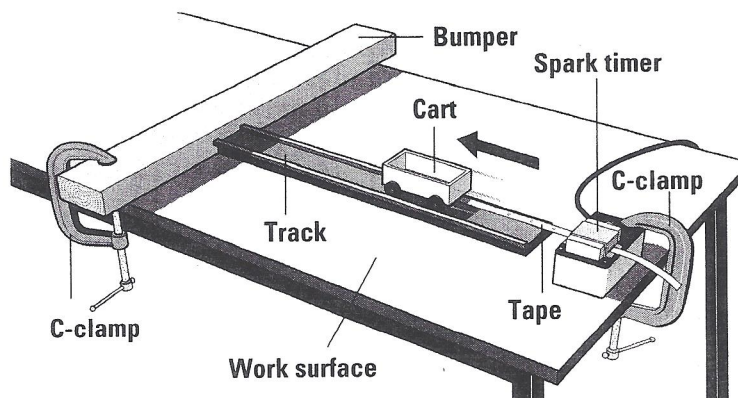

Figure 1 Set-up for producing and analyzing a uniform rectilinear motion
- 2 Reproduce the set-up illustrated in Figure 1.